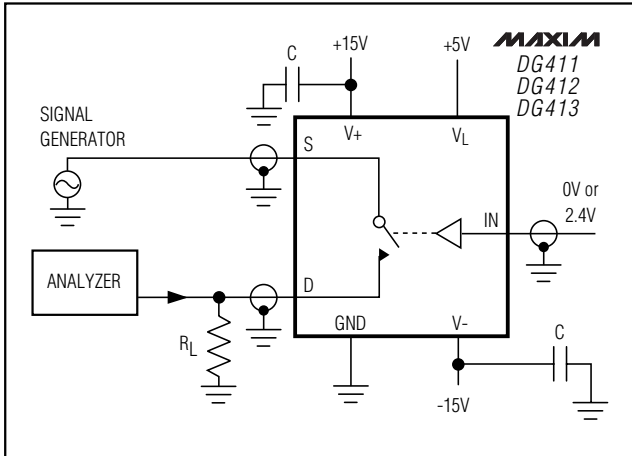

Figure 5. Off-Isolation
**Note 5:** Off-Isolation =  $20 \log (V_D/V_S)$ ,  $V_D$  = output,  $V_S$  = input to off switch. See Figure 5.